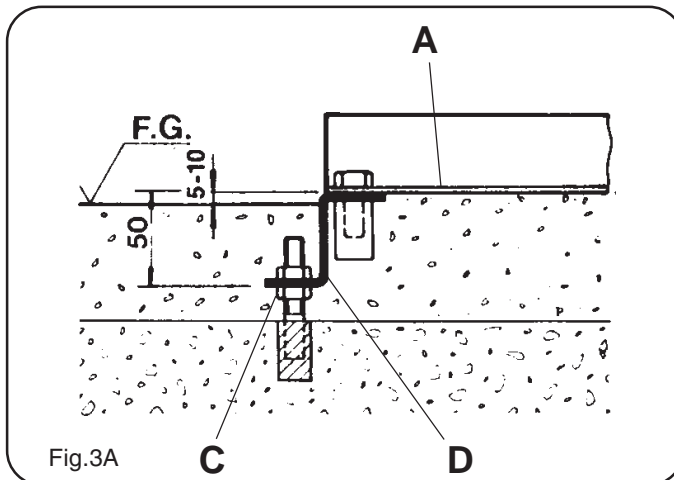

Fig.3A
- Frames (D/E) and fixtures (B) are screwed together with the enclosed screws M6S 12x20 (see Fig. 3A-B).
Foundation frames (see Fig.3A)